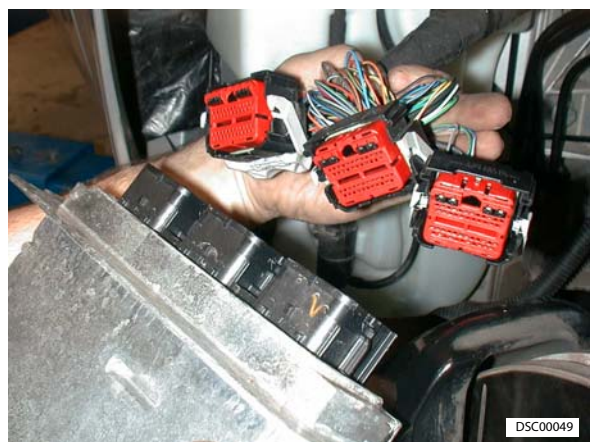

Figure 35
39. Install ECM and connect multiplugs to ECM (through cover plate) (refer to Figure 35).